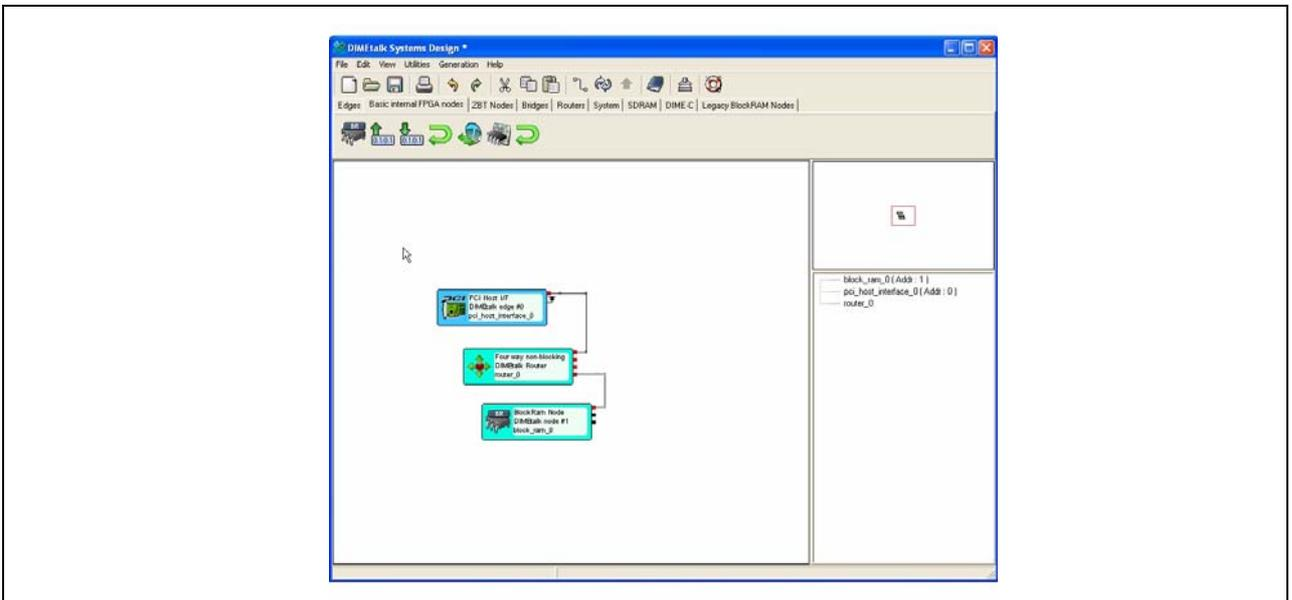

Figure 10: Wired Network
5. The components must now be wired together using the red terminals at the side of each component. Press the left mouse button when the cursor is over the red terminal on the right of the block RAM node. While holding the mouse button down, move the cursor over one of the red terminals on the right of the Router. When the cross cursor is directly over a red terminal, release the mouse button. A wire should appear connecting the two red terminals together. Repeat this step to wire the red terminal on the PCI Edge component to the Router. The network is now wired together as shown in **Figure 10**.